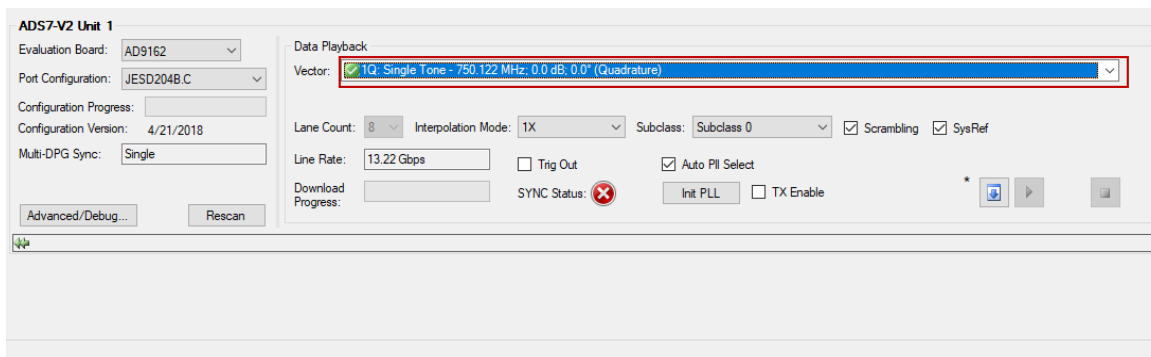

Figure 11. DPGDownloader: Selected Vector and Downloaded to the ADS7-V2EBZ Unit
12. Leave the other options as default values. **SYNC Status** may show as the red X, as in Figure 11.